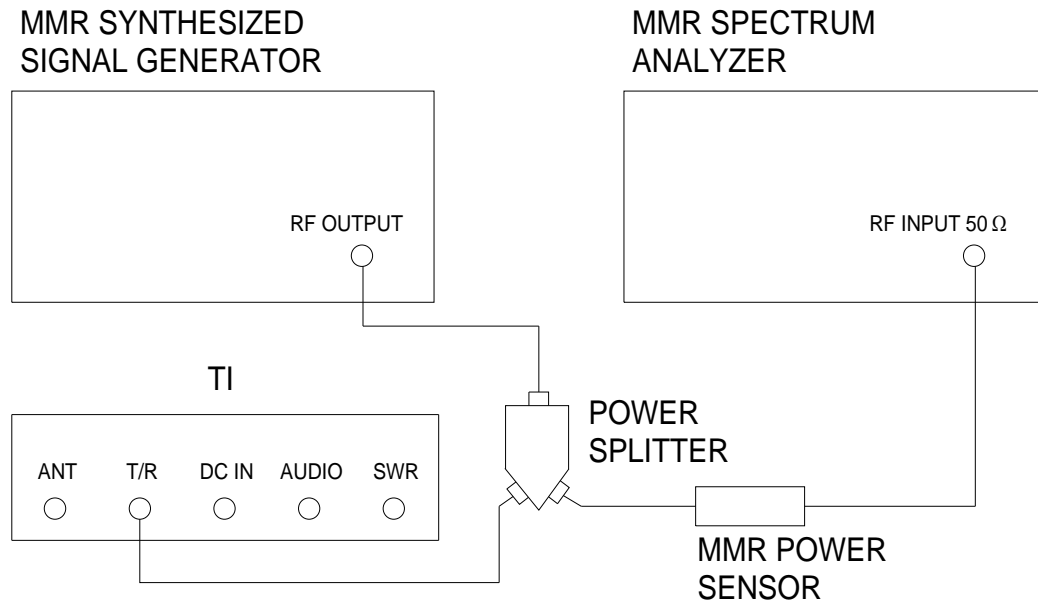

Figure 4.
4.3.4.3 Connect equipment as shown in Figure 4.